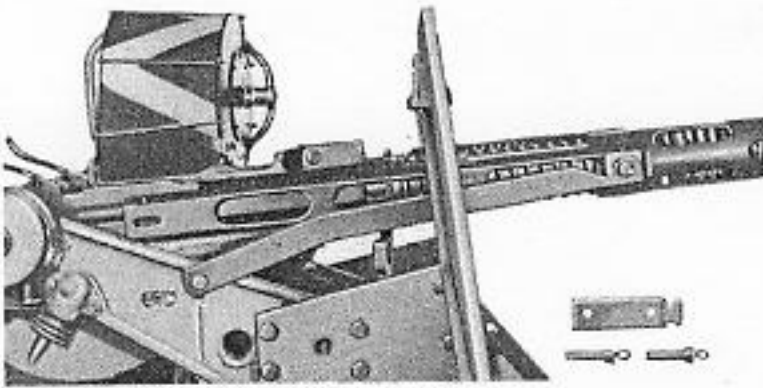

Figure 11. Barrel Springs and Breech Bars Retained by Cocking Bar—Cotter and Securing Bolts Removed from Gun.
2. **Cotter.** Remove breech-bar securing-bolt spring pins, securing bolts, and cotter. See Fig. 11.